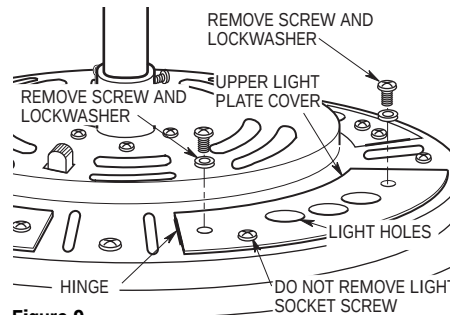

Figure 9
- 10. Unscrew and remove one lockwasher and screw from each end of the upper light plate cover on the fan motor housing. Do not remove the screw closest to the light holes (Figure 9).